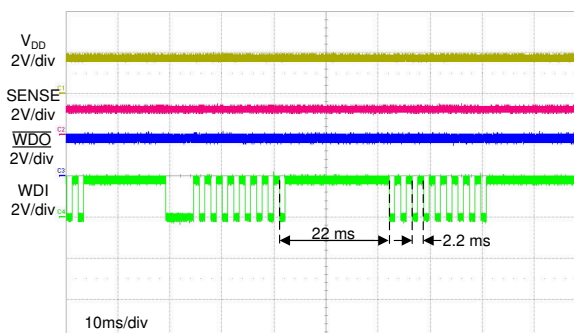

Figure 8-10. Window Watchdog Timing
In this application, the window watchdog timing options are based on the PWM signal that is provided to the TPS3850-Q1. A window watchdog setting must be chosen such that the falling edge of the PWM signal always falls within the window. A nominal window must be designed with $t_{WDL(max)}$ less than 5 ms and $t_{WDU(min)}$ greater than 5 ms. There are several options that satisfy this window option. An external capacitor can be placed on the CWD pin and calculated to have a sufficient window. Another option is to use one of the factory-programmed timing options. An additional advantage of choosing one of the factory-programmed options is the ability to reduce the number of components required, thus reducing overall BOM cost. Leaving the CWD pin unconnected (NC) with SET0 = 0 and SET1 = 1 produces a $t_{WDL(max)}$ of 2.22 ms and a $t_{WDU(min)}$ of 23.375 ms; see Figure 8-10.